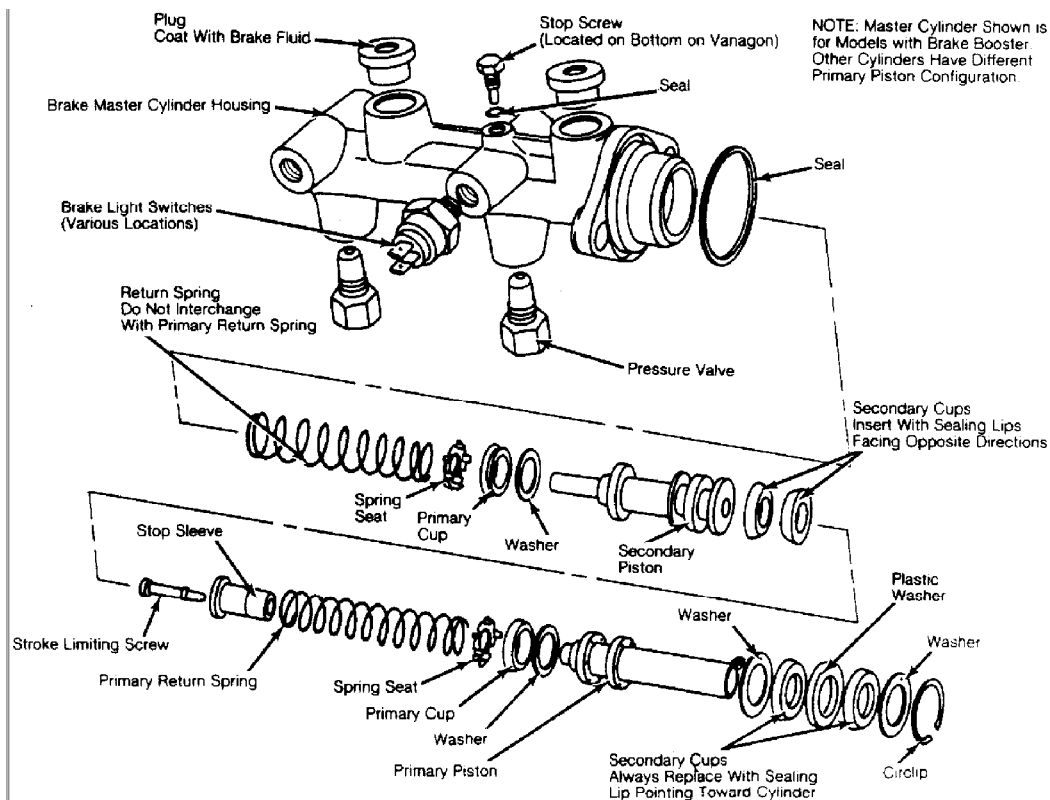

Fig. 9: Exploded View Of Power Assist Master Cylinder
1) Power assisted master cylinders differ in external design and primary piston configuration from unassisted versions. Disassembly procedure is identical for all versions. Remove dust boot (if equipped). Remove pressure valves and stoplight switches (if equipped). See Fig. 9.